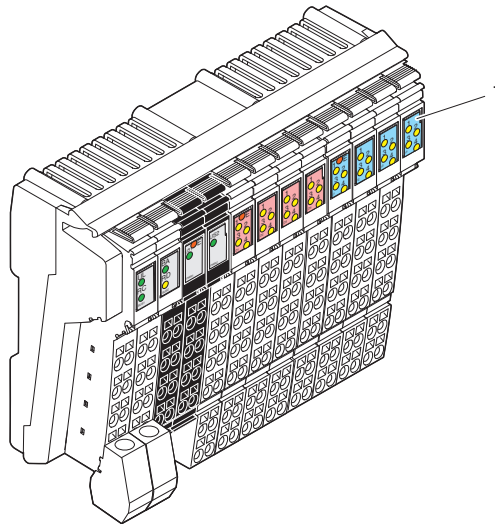

Fig. 6-9 Function identification
- Function identification** The Inline Block IO modules are color-coded to enable visual identification of their functions (1 in Fig. 6-9).